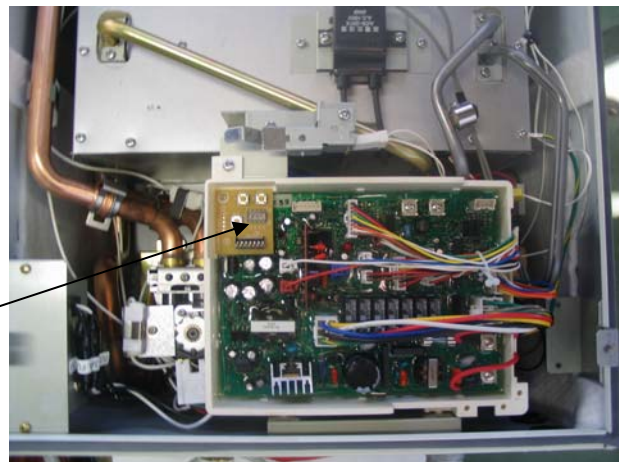

Figure 6
6. Change the DIP switch #4 setting on the PCB of the water heater to “ON” position (UP) in order to change the water heater to the manifold installation mode. **DO NOT** alter any other DIP switch. See figure 6 for DIP switch location on water heater PCB.